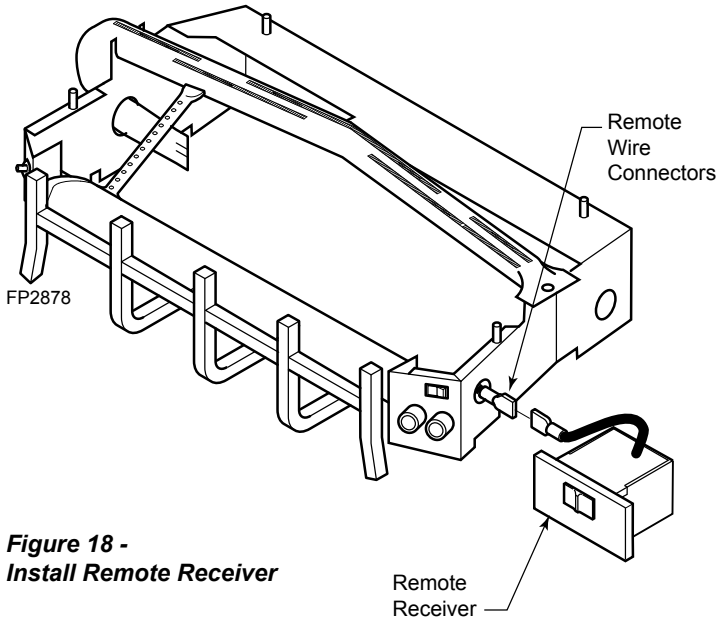

Figure 18 - Install Remote Receiver
Connect the connectors to the two (2) .25" male connectors located on the right side when facing the unit. *Figure 18.* Do not allow the wire to touch the grate or burners.